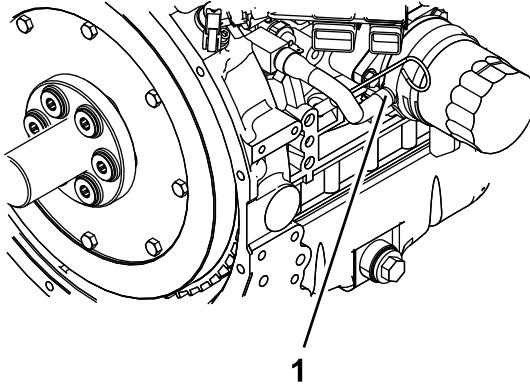

Figure 54
5. Remove the coolant hose from the oil cooler and drain the coolant from the engine block (reference Figure 54).